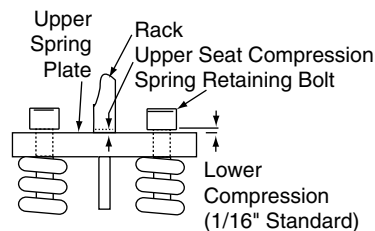

Figure 4. Compression
- Screw upper stem nut on stem 1/16" from connecting plate for compression on lower seat. (See Figure 4.)
Lower Seat: Run actuator to full closed (CW) position. Measure distance between head of spring retaining bolt and upper plate. (See Figure 4.)